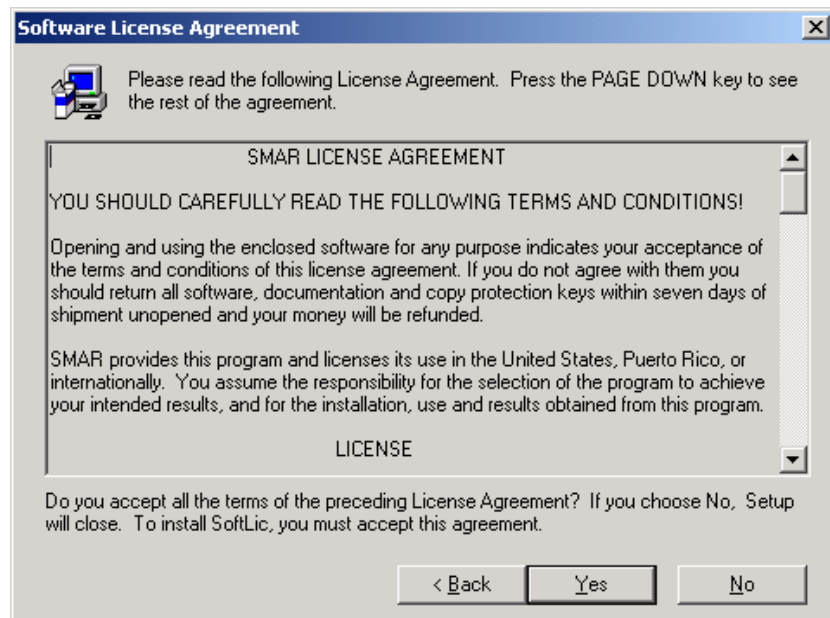

Figure 3.4. Software License Agreement
8. The **Software License Agreement** appears, as shown in **Figure 3.4**. If you accept the terms of the agreement, click **Yes**.